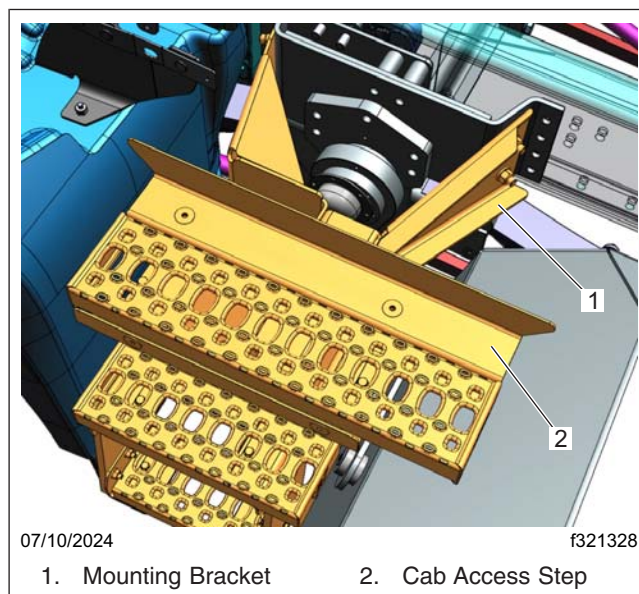

Fig. 8, Left-Hand Side Step and Bracket
1. Remove the cab access step and mount bracket. See Fig. 8.